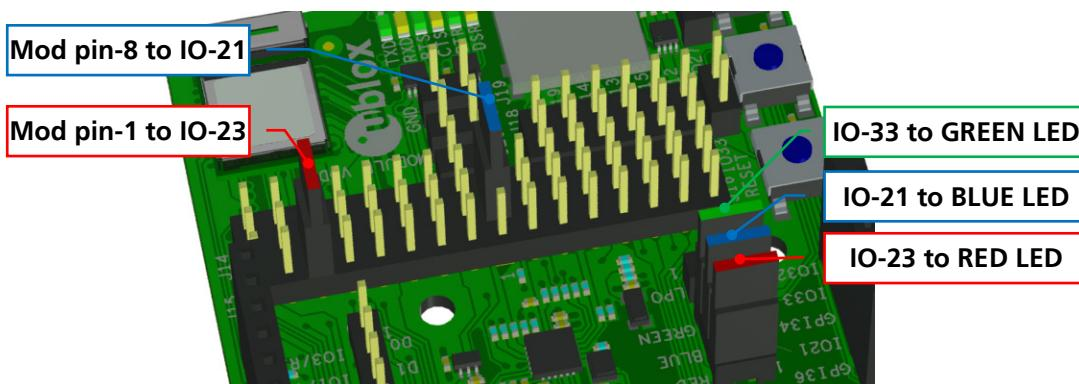

Figure 8: RGB-LED to IO signal jumpers
- 👉 To control DS9, the associated signal jumpers as shown in Figure 8 must be populated.
The jumpers shown in Figure 8 must be inserted to connect the RGB-LED driver with the associated module pins.